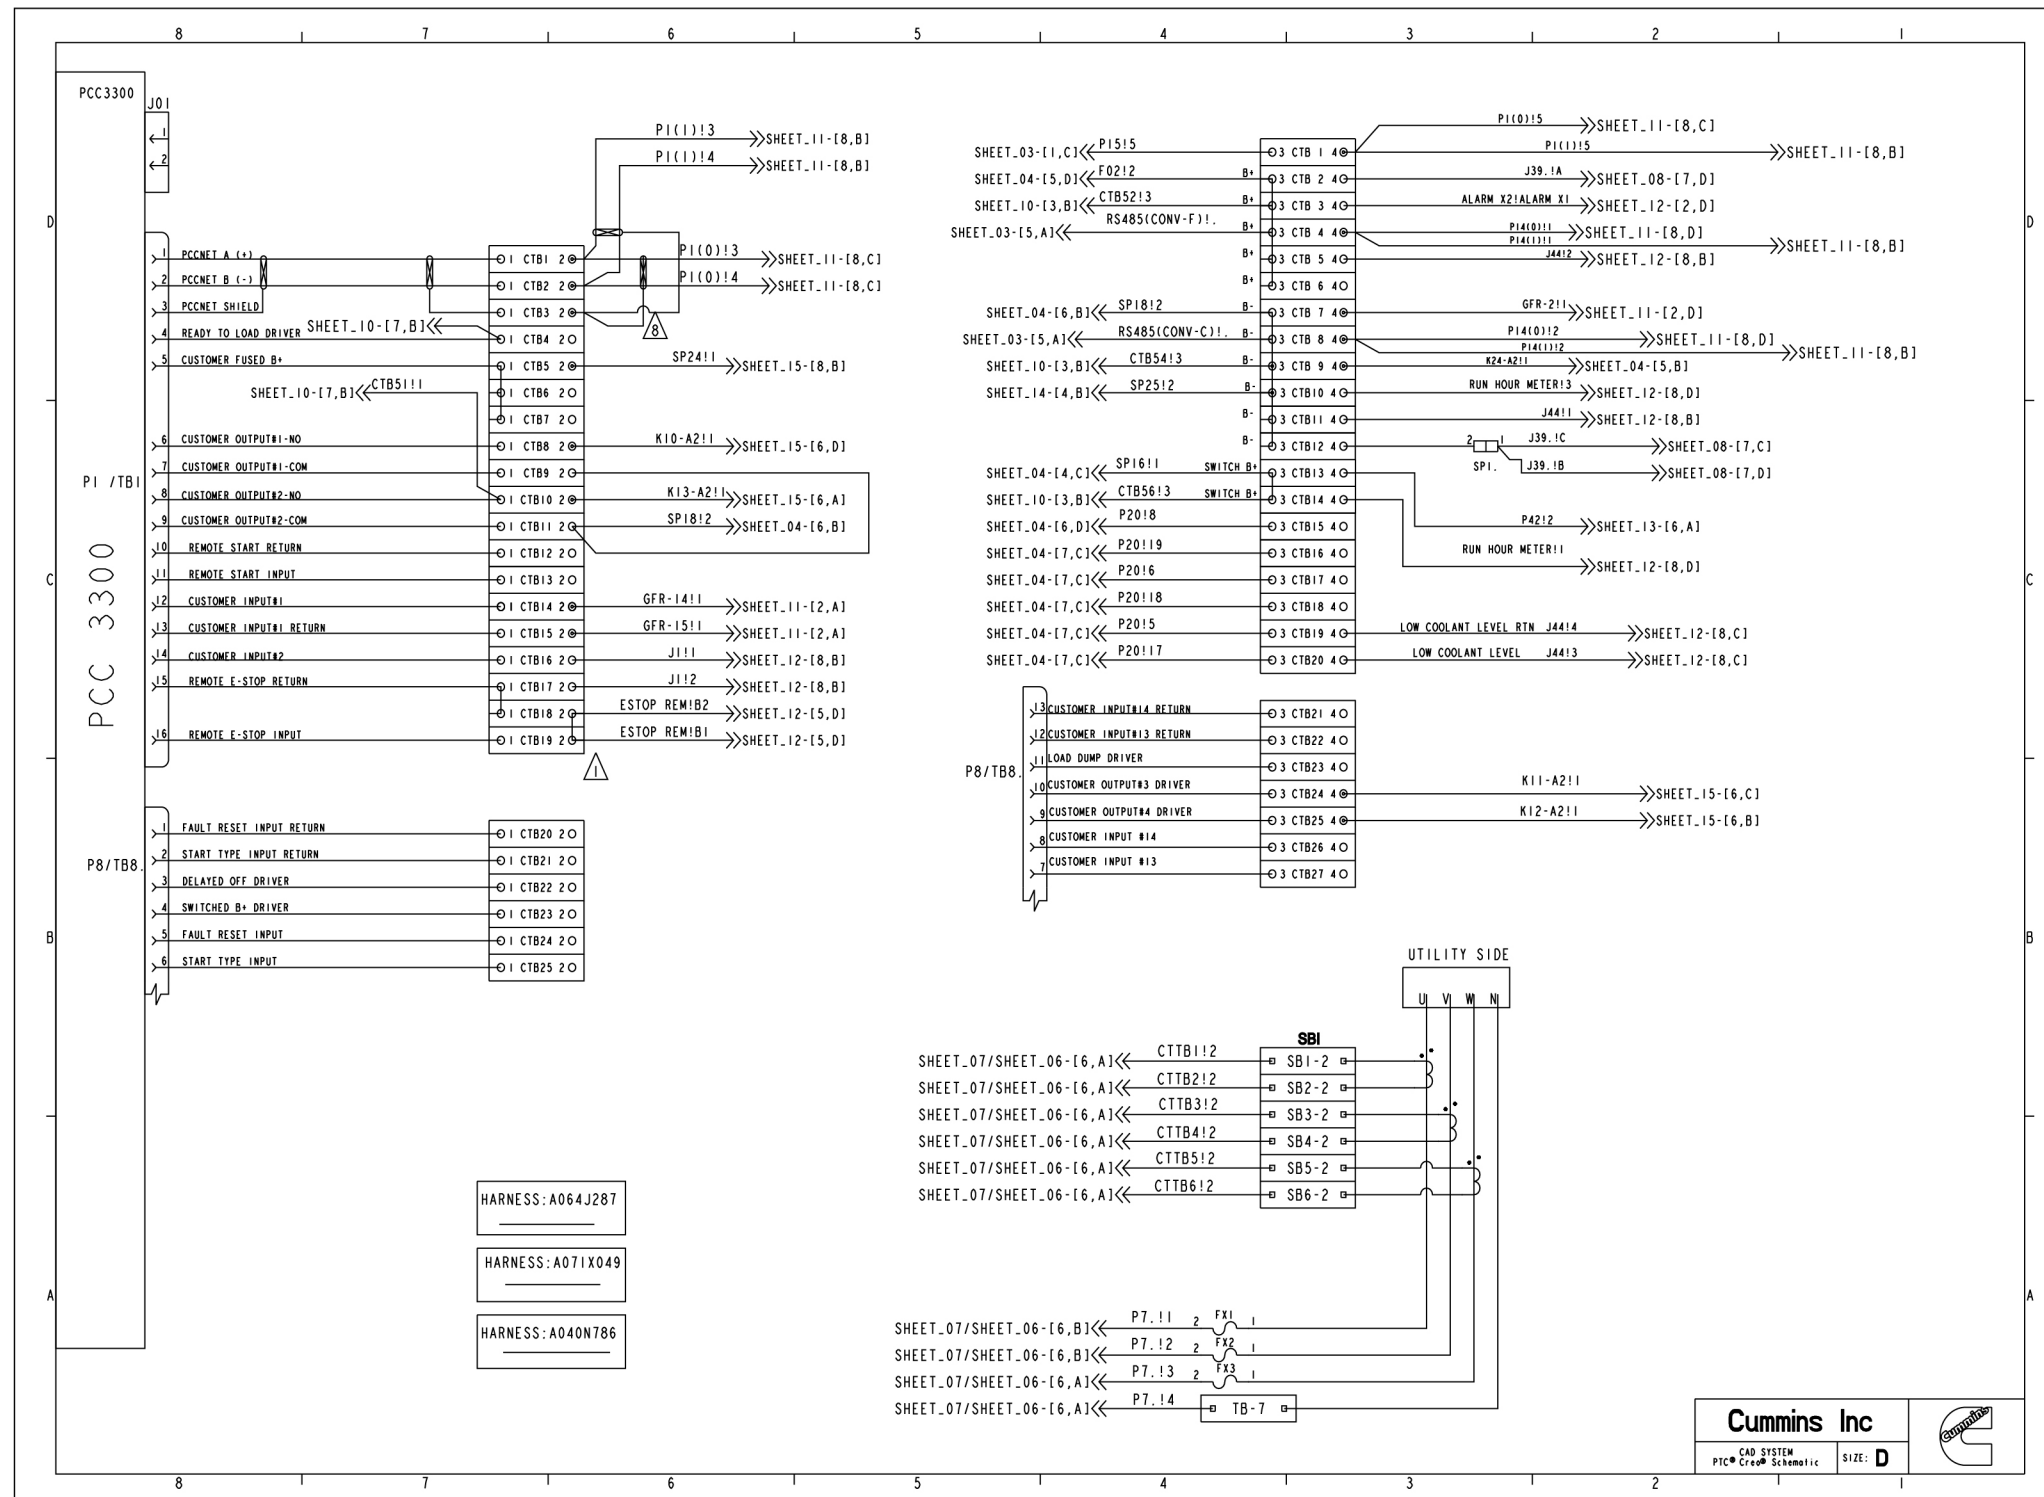

FIGURE 93. WIRING SCHEMATIC (SHEET 9)
- Figure 93. Wiring Schematic (Sheet 9) 397